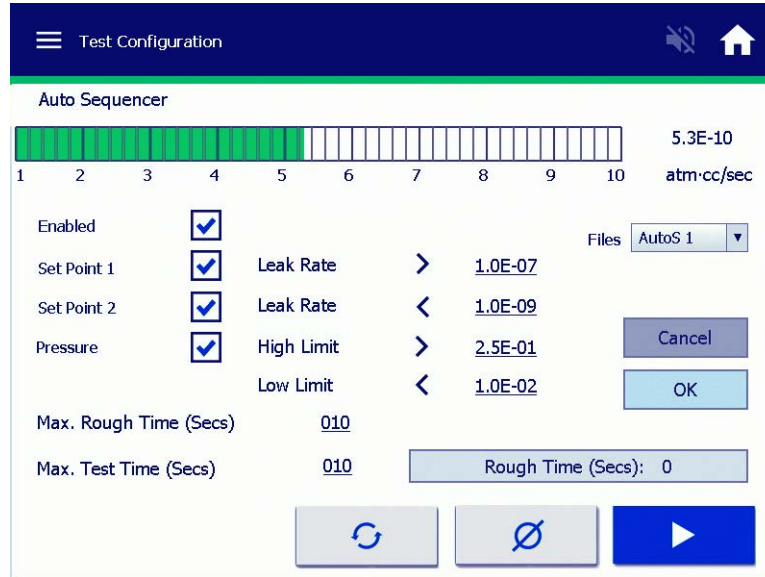

Figure 5-11 Auto Sequencer
The Auto Sequencer Set-Up screen appears (Figure 5-11). The leak detector can be configured to automatically run through a complete test cycle (Start/Rough/Test/Vent).
2. Select **Auto Sequencer** and press **Set-Up** and Figure 5-11 appears.